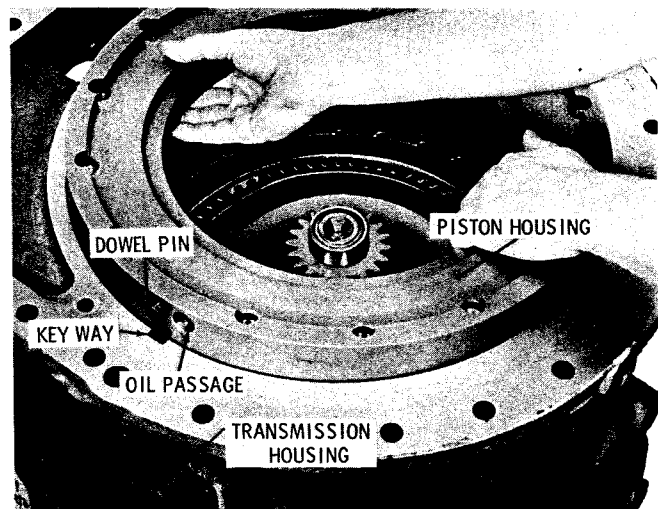

Fig. 7-16. Installing intermediate-range clutch piston housing and piston
(16) Install, as a unit, the intermediate-range clutch piston and piston housing (fig. 7-16). Aline the dowel pin with the keyway in the trans-